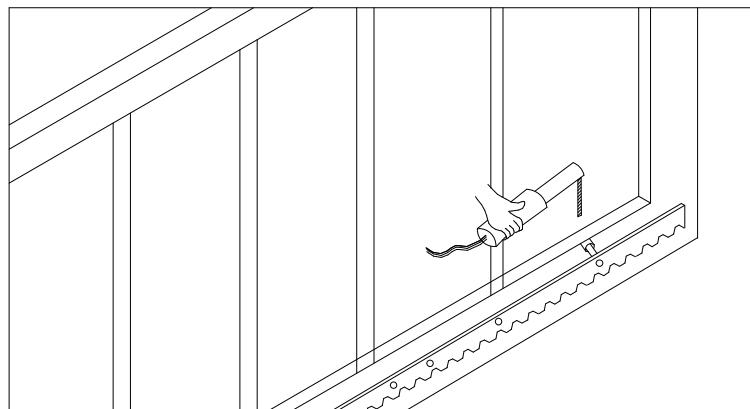

Figure 7
- Manually move the gate (gate should be moved smoothly after machine unlocked) to check whether there is a fit clearance between gear rack and output gear, as shown in Figure 7.